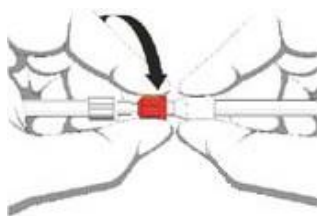

Figure 1b: Fistula Needle Connection: Securing Technique.
2. Twist the colored collar of the bloodline in the direction shown while holding the female luer of the fistula needle or catheter to secure the connection. See figure 1b.